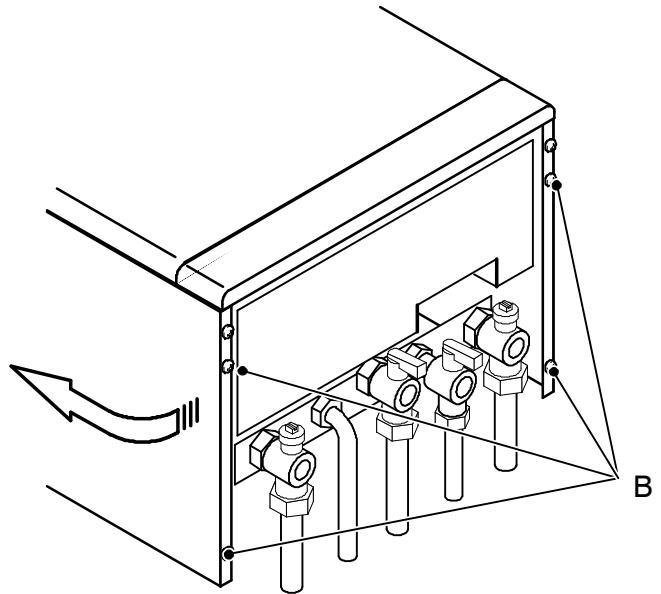

fig. 9.2
- 3 Loosen the screws B. Bring the bottom of the panels away from the boiler and lift them, freeing them from the top hooks (fig. 9.2).